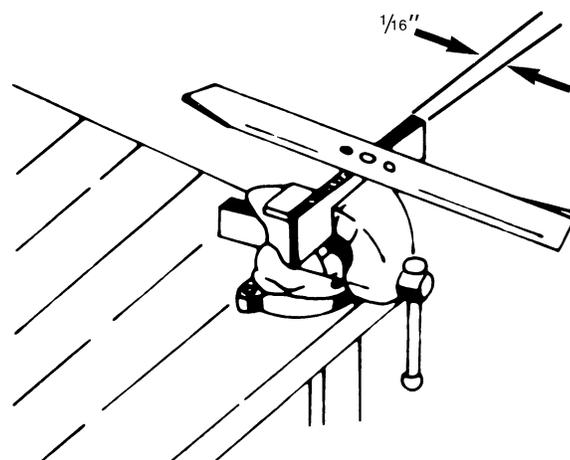

FIG. 15
E. After sharpening, check blade for balance by supporting blade as shown in (Fig. 15), using the center hole as a guide. File or grind metal from heavy end of blade until blade balances.